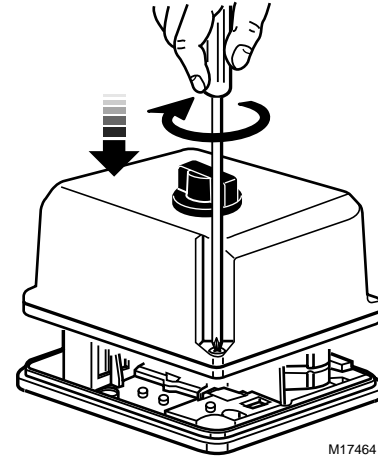

Fig. 9. Replacing actuator cover.
4. When wiring is complete, replace the actuator cover and control knob (see Fig. 9).